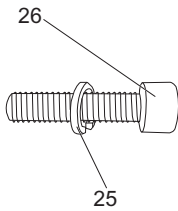

Fig. 5
- > Line up the 2 x mounting holes on the guide fence (8) with those situated on the out-feed table.
- > Fit a spring washer M6 (25) and a hex head screws M6 x 25mm (26) through both sets of holes and tighten with the 5mm hex key to secure. (Fig 5 & 6)